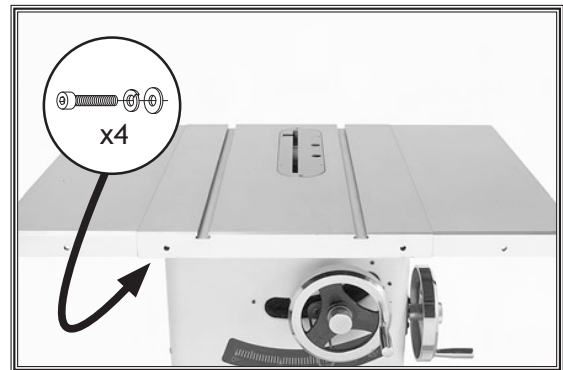

Figure 13. Extension wings installed.
8. While a helper holds the wings in place, attach each extension wing to the main table with the four M8-1.25 x 30 cap screws, 8mm lock washers, and 8mm flat washers removed in **Step 6** (see **Figure 13**).